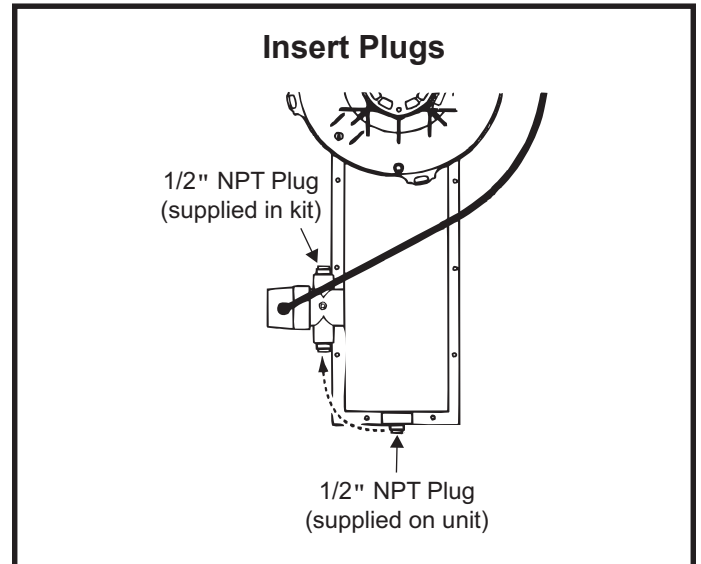

Figure 23
- Relocate 1/2" NPT plug installed on flue pan to one side of the internal trap assembly (as shown in Figure 23).